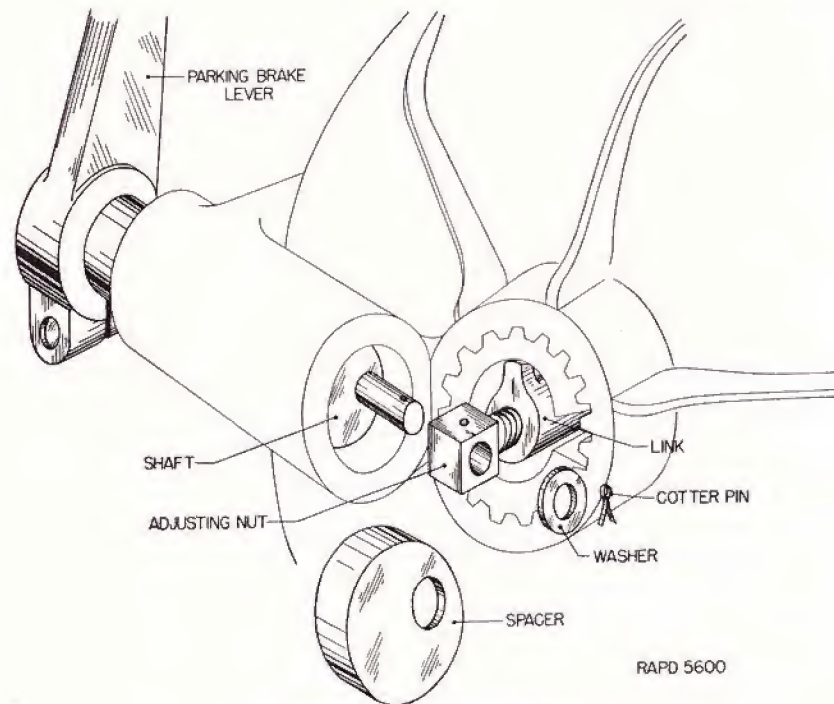

FIGURE 43.—Parking brake adjustment.
88. Adjustment of parking brake (fig. 43).—The parking brake depends upon a toggle joint for its locking action. This joint consists of an eccentric on the end of the cross shaft to which is fastened an eye and a link. The adjustment of this linkage should be such that application of the brake lever will cause the toggle action to go past center and into the locked position after seating the brake shoe lining firmly against the conical brake drum. To adjust the parking brake proceed as follows: